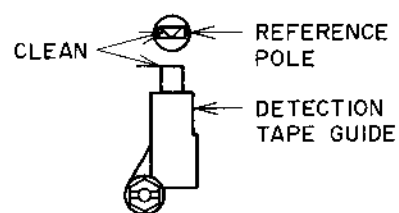

Fig. 6-2
4. Clean the reference pole and the Detection tape guide before the Quick Reverse adjustment. refer to Fig.6-2